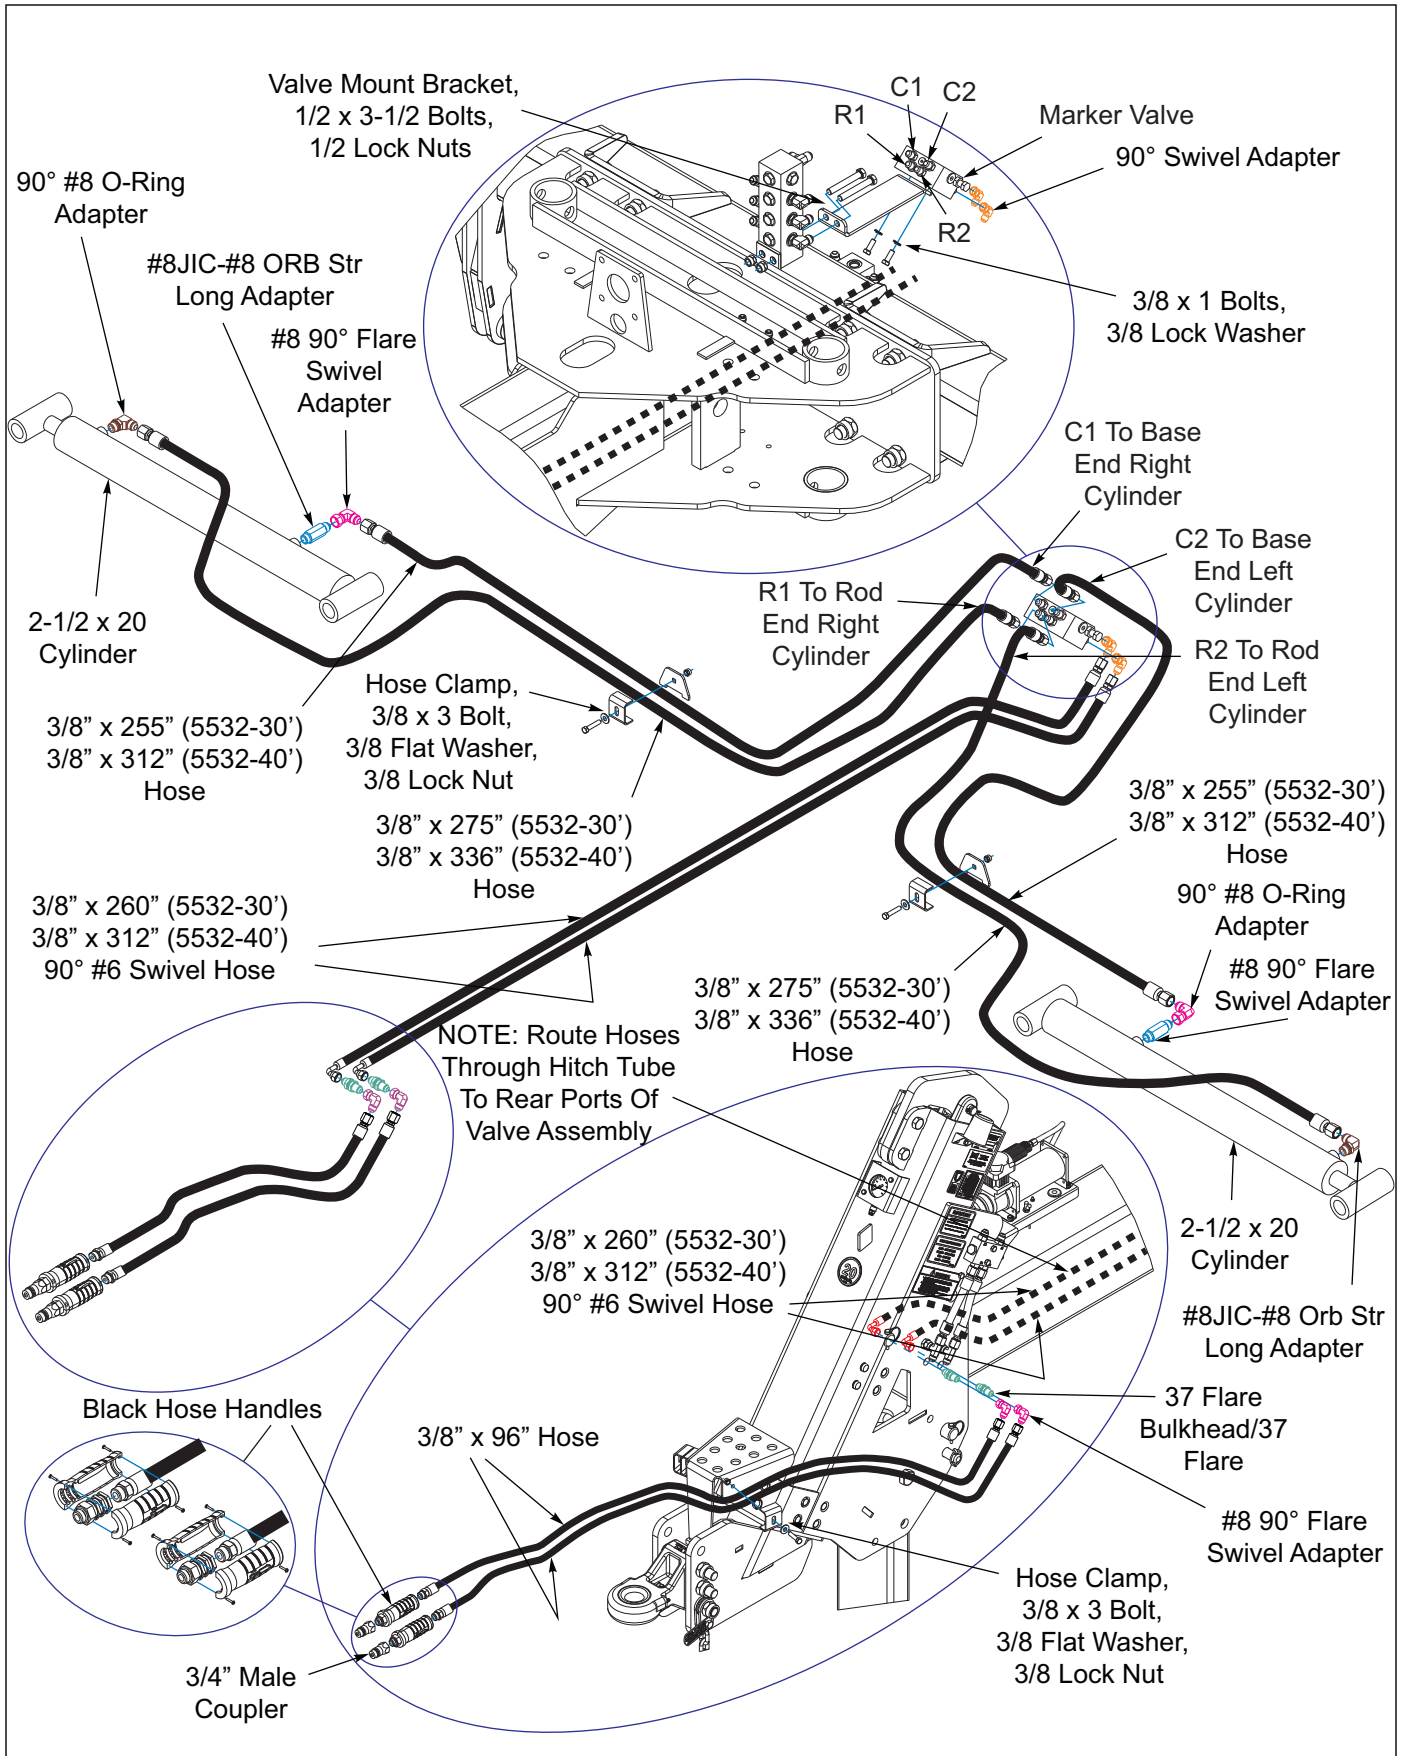

Figure 3-18: Marker Assembly Hydraulics
3. Locate the two unused bulkhead fitting holes on either side of the front of the hitch *See Figure 3-18*. Remove the hydraulic hose shield from that side of the hitch.
30. Install a 90-degree adapter in the rod end of each marker cylinder **See Figure 3-18**.
35. Attach a hose clamp to the left side of the hose holder plate on front of hitch and to rear frame plates using 3/8 x 3 bolt, 3/8 flat washer and 3/8 lock nut **See Figure 3-18**.